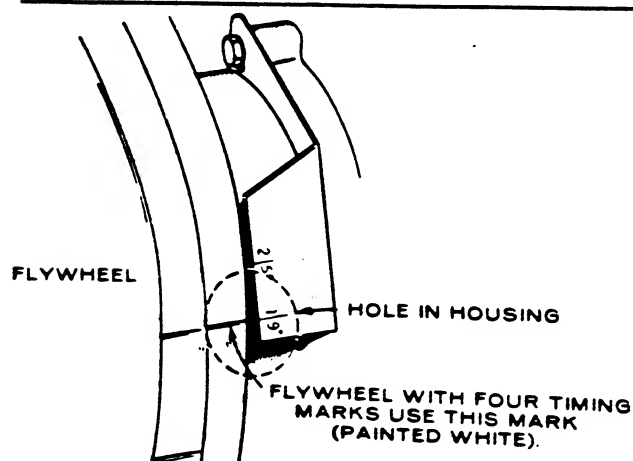

FIGURE 11. BREAKER POINTS AND TIMING MARKS
3. Turn flywheel in a clockwise direction approximately 1/4 turn after top center (TC).
4. To adjust the gap, refer to Figure 11. Loosen screws (A) and turn cam (B) until point gap measures .020 inch (.508 mm) with a flat thickness gauge. Retighten screws (A) and recheck gap.